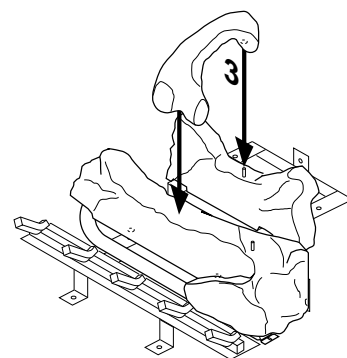

Figure 47 - Installing Log No. 3
3. Place log #3 ("C"-shaped crossover log) onto the rear and front logs. Make sure it is seated properly on the smooth surface on the front log and on the pin on the back log as shown in Figure 47.